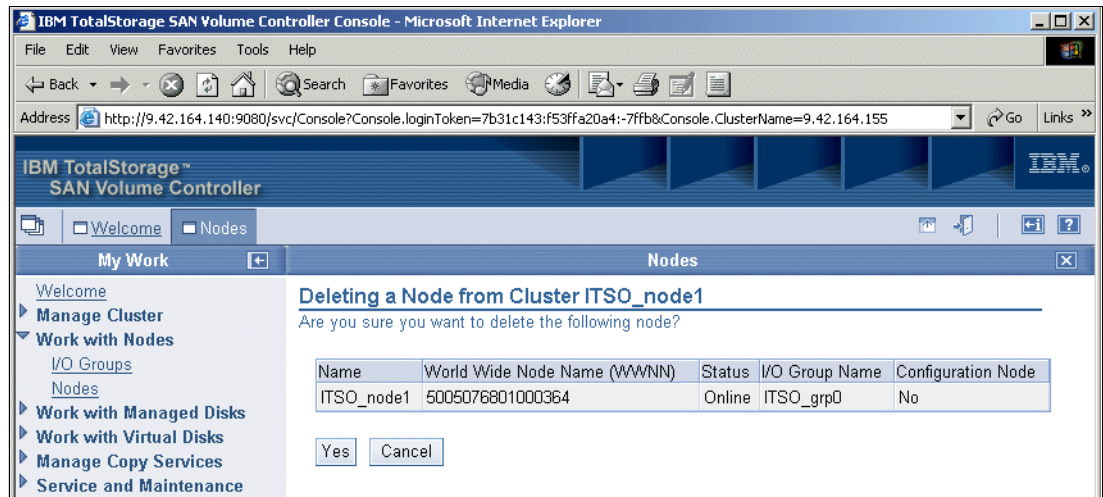

Figure 9-23 Deleting a node
2. On the Deleting a Node from Cluster *nodename* panel (where *nodename* is the name of the node you selected in the previous step), confirm your decision by selecting **Yes**. See Figure 9-23.